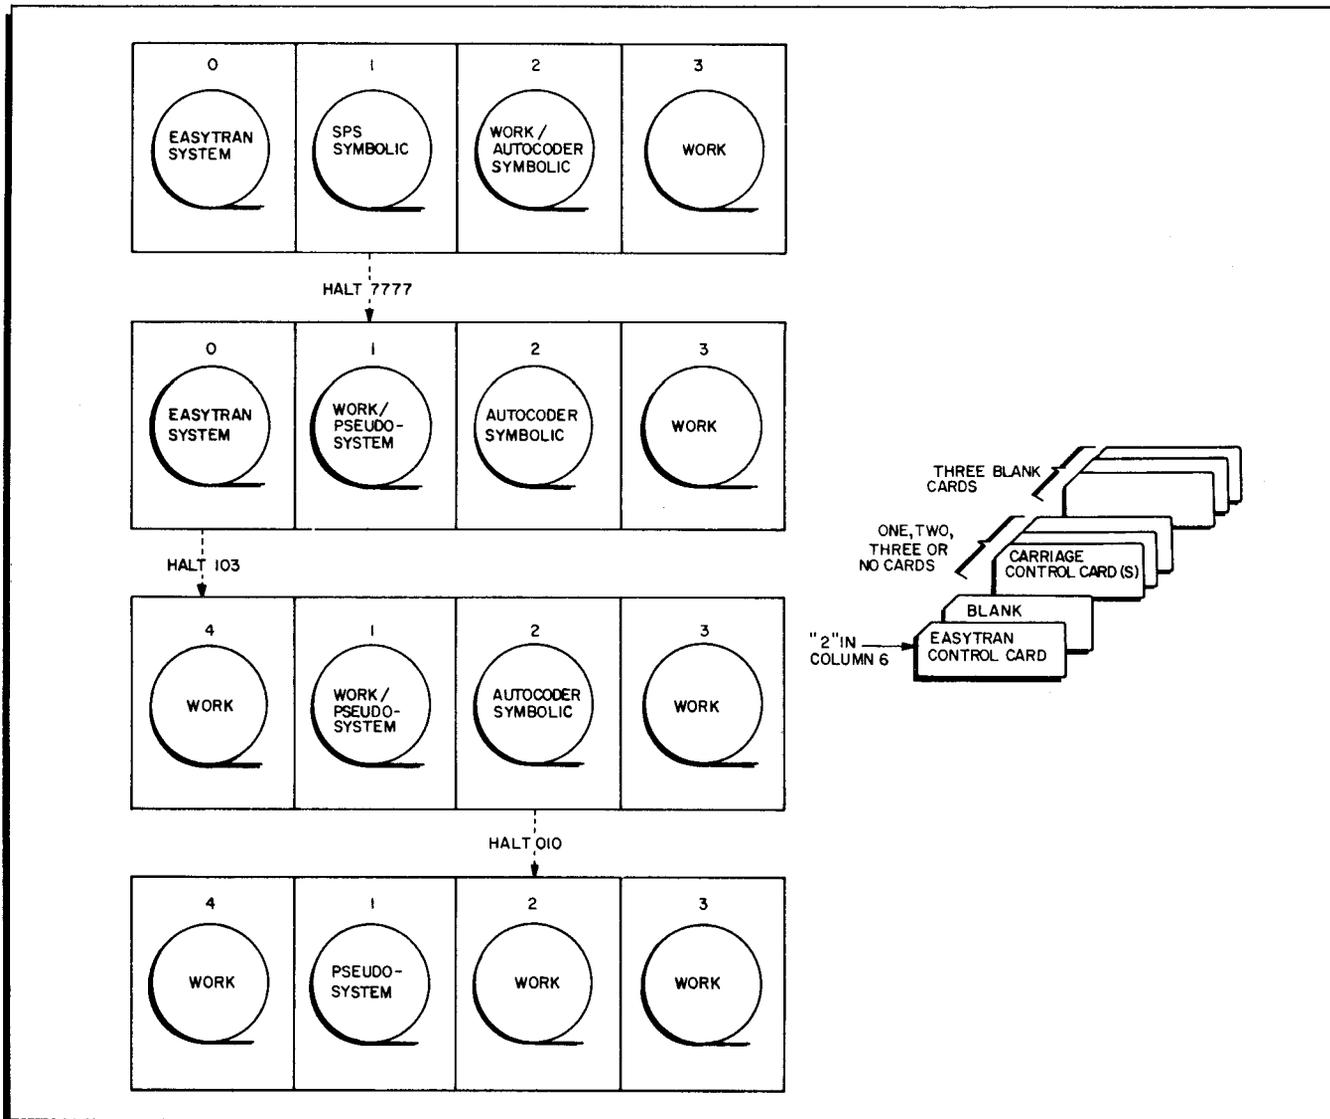

Figure 4. Four-Tape System — Tape Manipulation and Card Input for SPS Conversion from Tape
Four-Tape System: SPS Conversion from Tape (Figure 4)
1. Make up the Easytran load deck as shown in Figure 4; load the card reader.